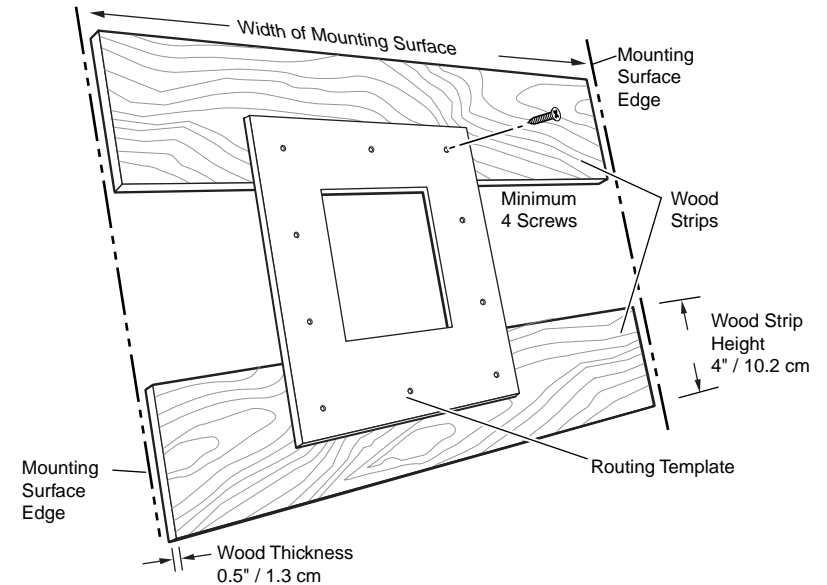

Figure 2-1 — Prepared routing template
1. Cut 1/2" x 4" strips of soft, finished lumber long enough to span the distance between the desired installation location on the table or other mounting surface and the edges of the table (figure 2-1).